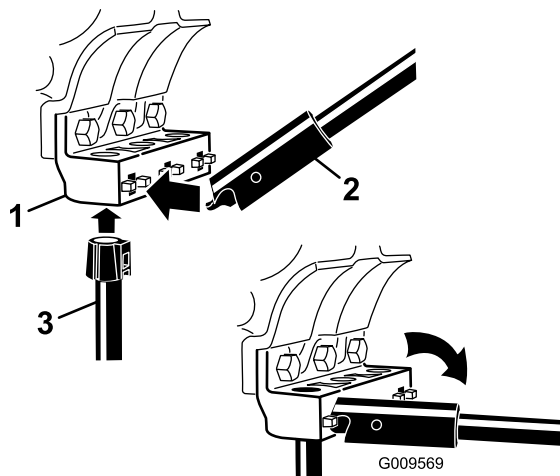

Figure 4
4. Lock the tine/sleeve assembly in place with the QuickChange tool by prying the sleeve upwards into the tine head (Figure 4). Do not use an extension bar to insert tines.